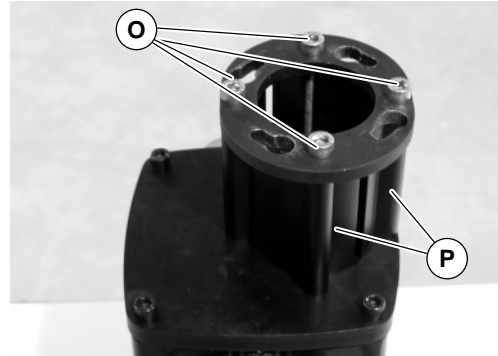

Figure 9
5. Remove four (4) screws (O of Figure 9) and detach coupling covers (P).
10. Install coupling covers (P of Figure 9) with four (4) screws (O) and tighten to 110 in-lbs (12 N-m).